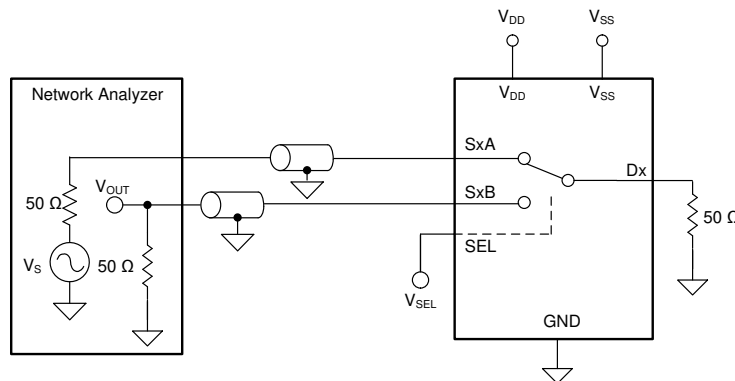

图 7-8. Intra-Channel Crosstalk Measurement Setup
1. Intra-channel crosstalk: the voltage at the source pin (Sx) of an off-switch input, when a 1-VRMS signal is applied at the source pin of an on-switch input in the same channel, as shown in 图 7-8.